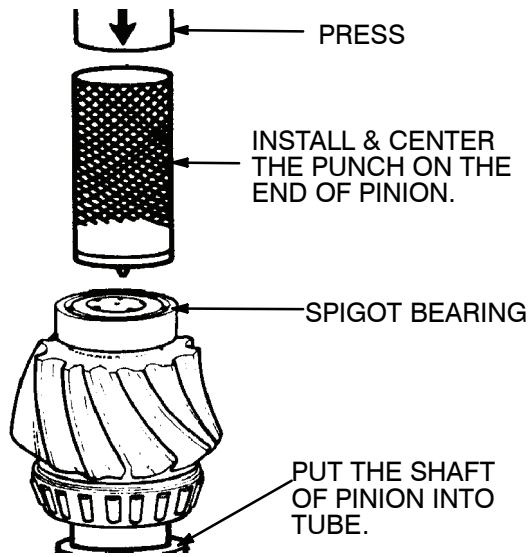

Figure 114.
- (a) Put the drive pinion and the tube of the peen tool in a press, spigot bearing toward the top. Figure 114.
- (c) Put the punch of the peen tool over the end of the pinion and spigot bearing. Apply the required amount of pressure on the punch. Figure 114.